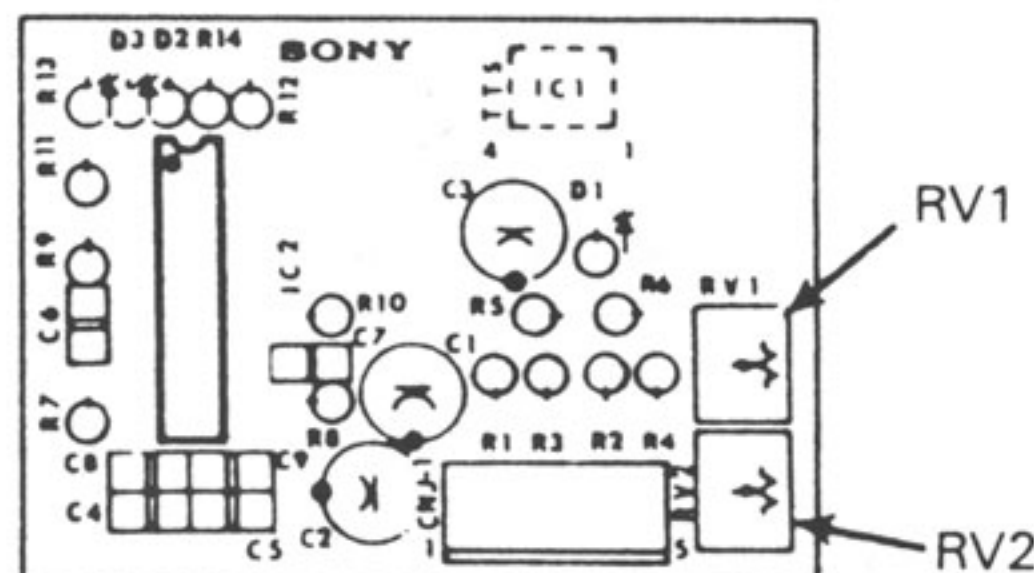

Figure 7-3. TTS Board
STEP 5. Adjust RV1 on the TTS board (Figure 7-3) so that the duty cycle of the displayed waveform becomes 50%.